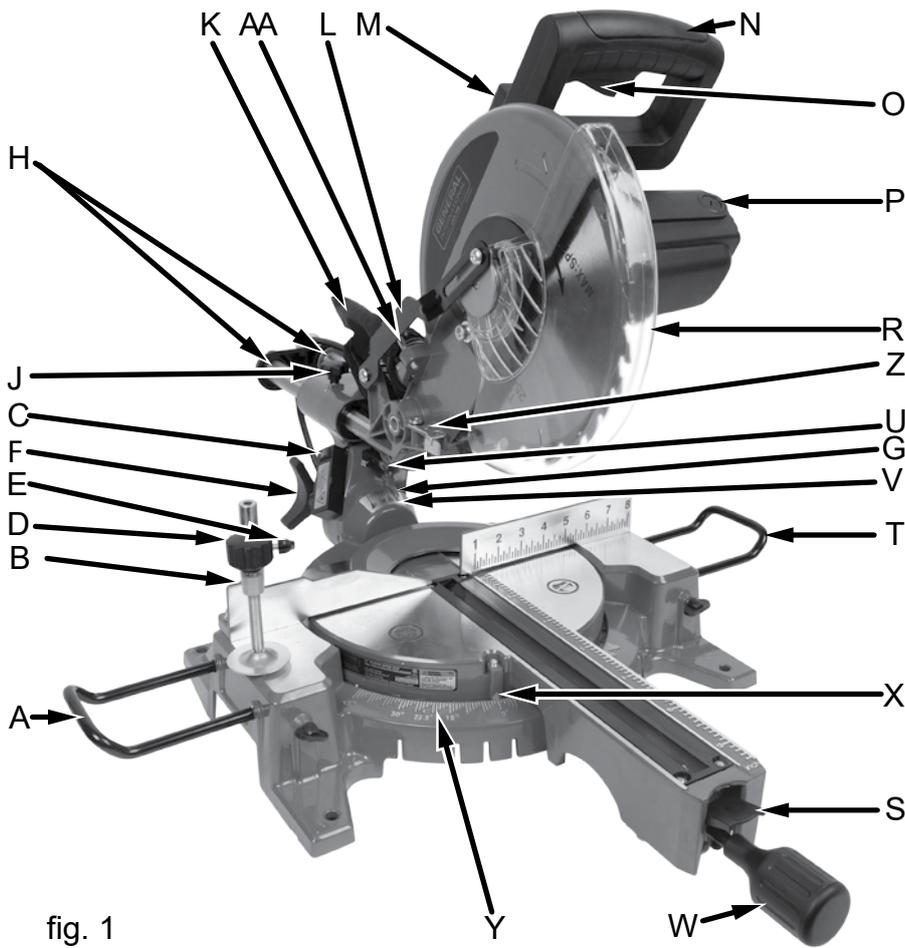

fig. 1
Two table side extensions (A & T, fig.1 & 2) are included with your saw to help support longer pieces of material.
2. Slide the shaft into the hole and then tighten the hold-down clamp retention screw (B, fig.1 & 4).
- Tighten the hold-down clamp fine height adjustment knob (D, fig.1 & 2) to secure the workpiece.
1. Locate the red laser switch (C, fig 1 & 4) on the left side of the saw head assembly.
3. Turn on the laser cutting guide, using the switch on the left surface of the 'bend arm' assembly (C, fig.1, 2 & 4).
4. Squeeze the trigger button (O, fig.1 & 2) in the handle to start the saw with the cutting head in the raised position and the blade fully enclosed in the retractable blade guard (R, fig.1 & 2).
1. Lock the head in the upright, 0° bevel position using the saw bevel locking knob (F, fig.1 & 2).
2. Using the miter angle lock lever (S, fig.1 & 2), lock the table rotation at 0° miter.